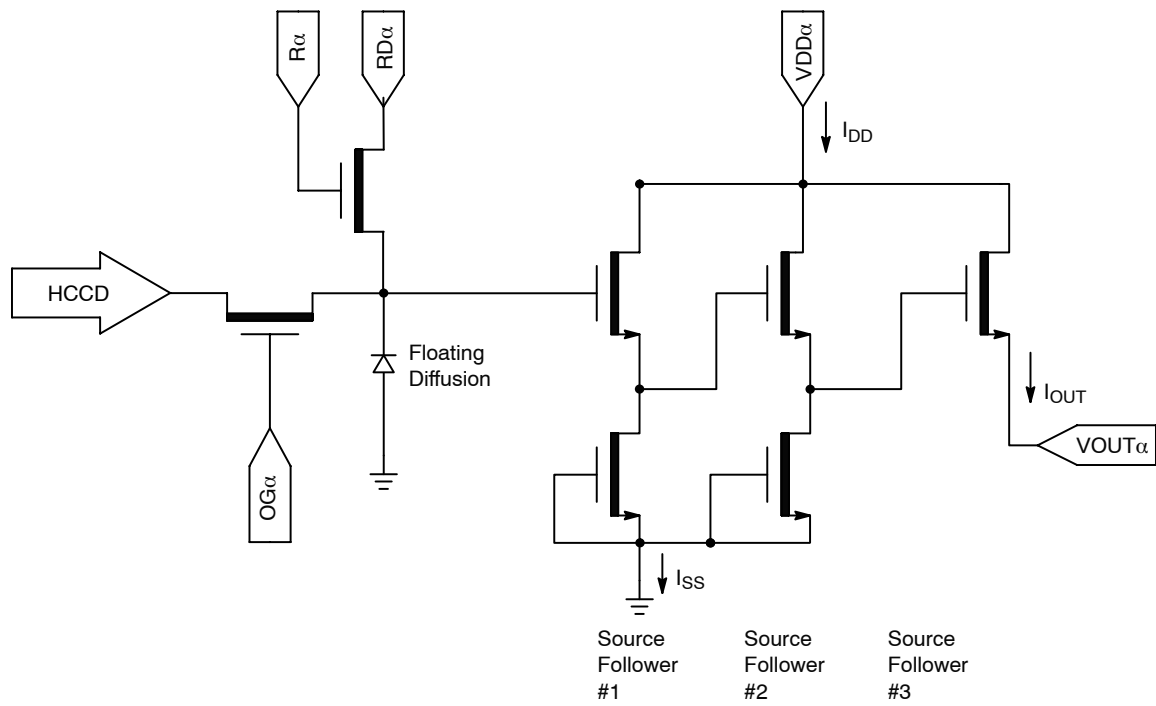

Figure 15. Output Amplifier
- The maximum DC current is for one output. Idd = Iout + Iss. See Figure 15.